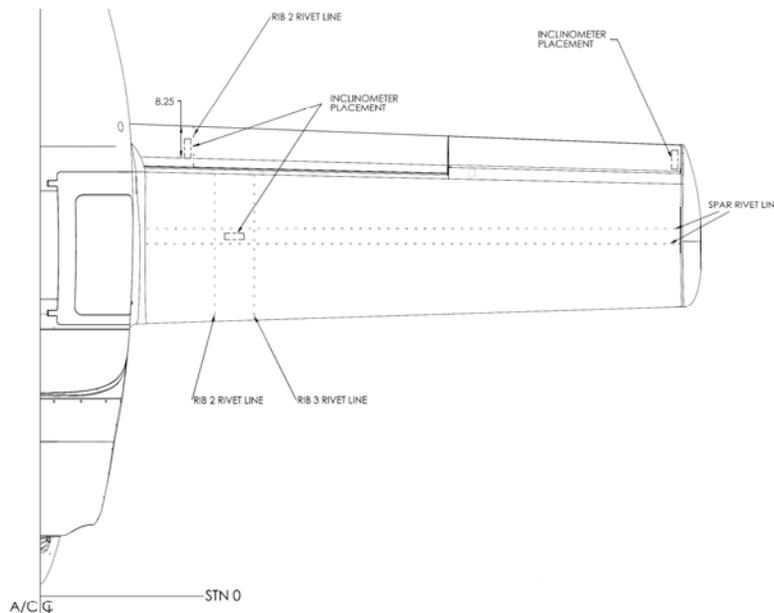

Figure 27-81 Location inclinometer for flap incidence true Port & Starboard
3. Locate a SmartTool™ digital inclinometer as shown in Figure 27-81.
4. Record the attitude angle of the port flap upper surface outboard of the second flap rib as shown in Figure 27-81 with the flap fully retracted.